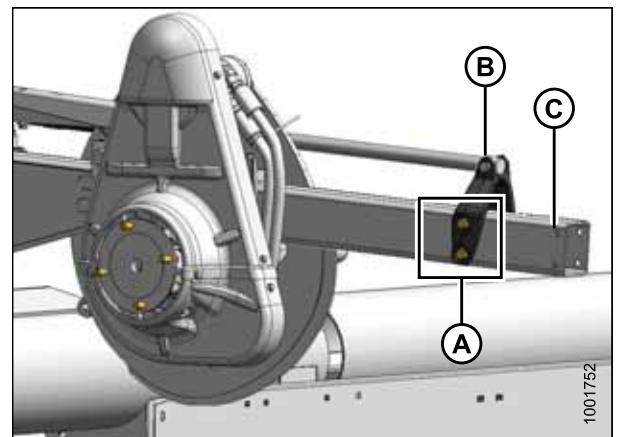

Figure 3.39: Rearward Position
- Rearward position, refer to Figure 3.39, page 63
5. Reinstall four bolts (A) to secure bracket (B) to reel arm at new position.